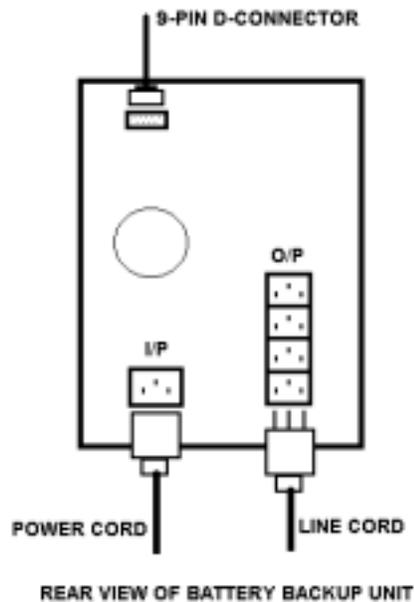

Figure 3
2. The battery backup unit may be removed from the oven if is necessary to test. It may be bypassed by unplugging the line cord and power cord from the rear of the unit and connecting the line cord with the power cord. (See Figure 3) Please refer to the OEM Instruction Manual for further instructions for troubleshooting the battery backup unit.